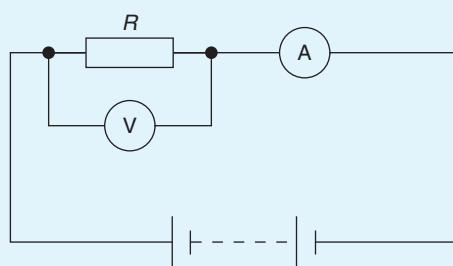

Figure 5.44
11. If in the circuit shown in Fig. 5.44, the reading on the voltmeter is 5 V and the reading on the ammeter is 25 mA , the resistance of resistor R is: